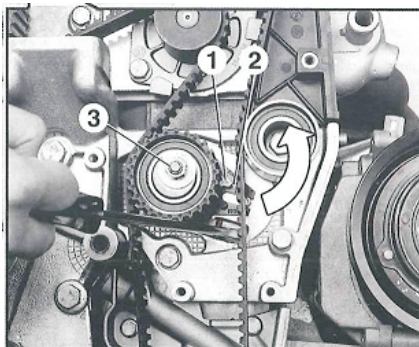

FIG. 6
- 6 Loosen the tensioner nut and push it until mobile indicator [FIG. 6] (1) is aligned with the mark (2), then tighten the tensioner nut (3).